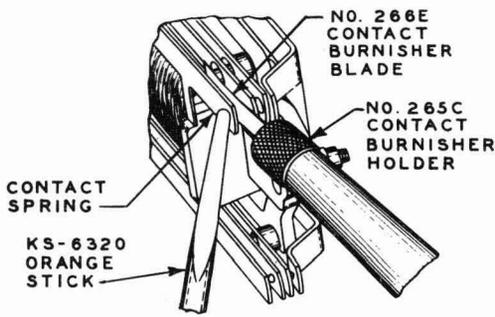

Fig. 8 – Method of Burnishing Contacts on A-, AB-, E-, EA-, F-, H-, R-, and T-type Relays
4.08 In burnishing normally open contacts, place the blade of the burnisher between the contacts. Press them together with the KS-6320 orange stick as indicated in Fig. 8 or operate the relay manually, giving a slight pressure against the blade of the burnisher and at the same time move the blade back and forth. Fig. 8 to 16, inclusive, illustrate methods for some typical relays. Burnish similar contacts on other types of relays in the same general manner. In the case of the normally closed contacts, the tension of the springs themselves will usually furnish sufficient pressure against the burnisher. On springs having heavy tension, lift one of the springs away sufficiently to insert the burnisher. Additional details on methods of burnishing contacts on several types of relays are described in 4.10 to 4.13, inclusive.